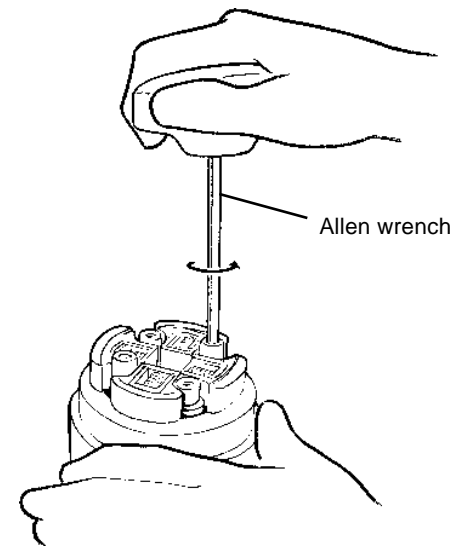

Figure 6.7 Removing the clutch body.
- STEP 4.** Remove the, springs and shoes from the clutch body (Figure 6.7).